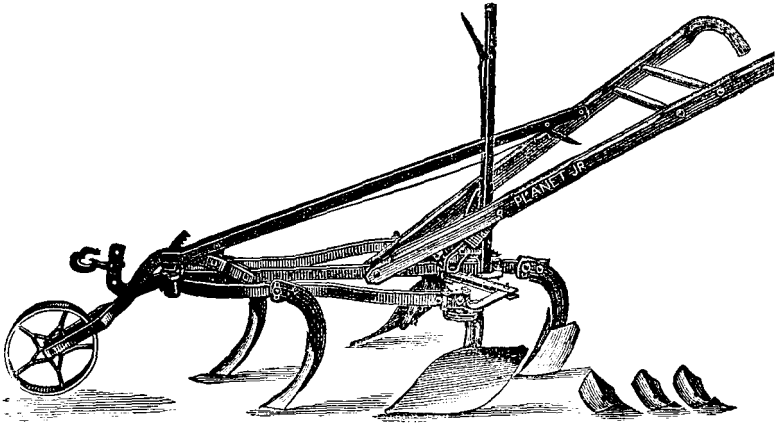

FIG. 14. Planet Jr., Horse Hoe.
*The Planet Jr. Horse Hoe* has made a very favorable record wherever it has been tried. The construction is so complete that it can be used for almost all kinds of horse work in the garden. It will open and close furrows for potatoes, will do good work as a cultivator, and will draw the soil from or throw it toward plants. The attachments comprise sets of narrow cultivator teeth, wings for pushing the soil to one side or to carry it to the center between the rows, and sweeps for shallow cultivation. A useful attachment is a pulvenerizer or rake to level the surface in the rear. Two extra side-bars are provided, which allow the use of nine narrow plates instead of five. Two levers are attached, one of which regulates the depth and the other the width. The list price is \$12. Fig. 14.